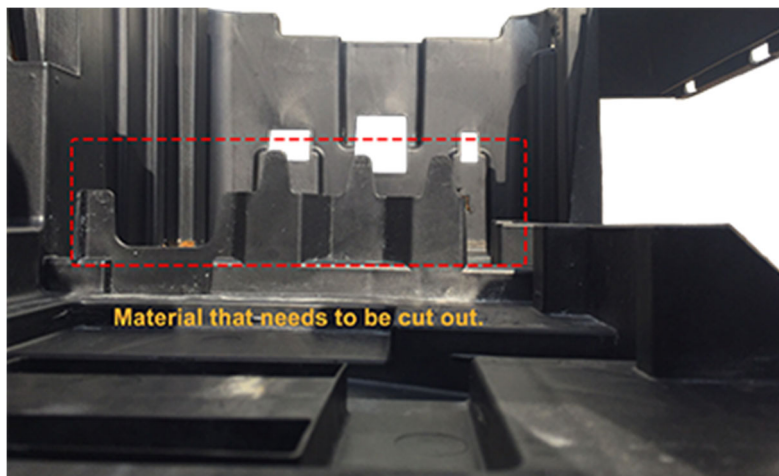

Fig. 5
2. To ensure that the lithium battery tray sits flush within the battery tray/tub, there is a section of raised plastic that needs to be removed. (Fig. 5)